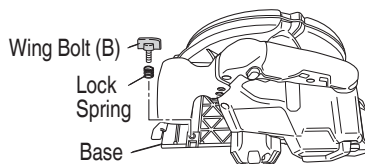

Fig. 19
3. Regulating the guide (Rip fence) (Fig. 19, 20)